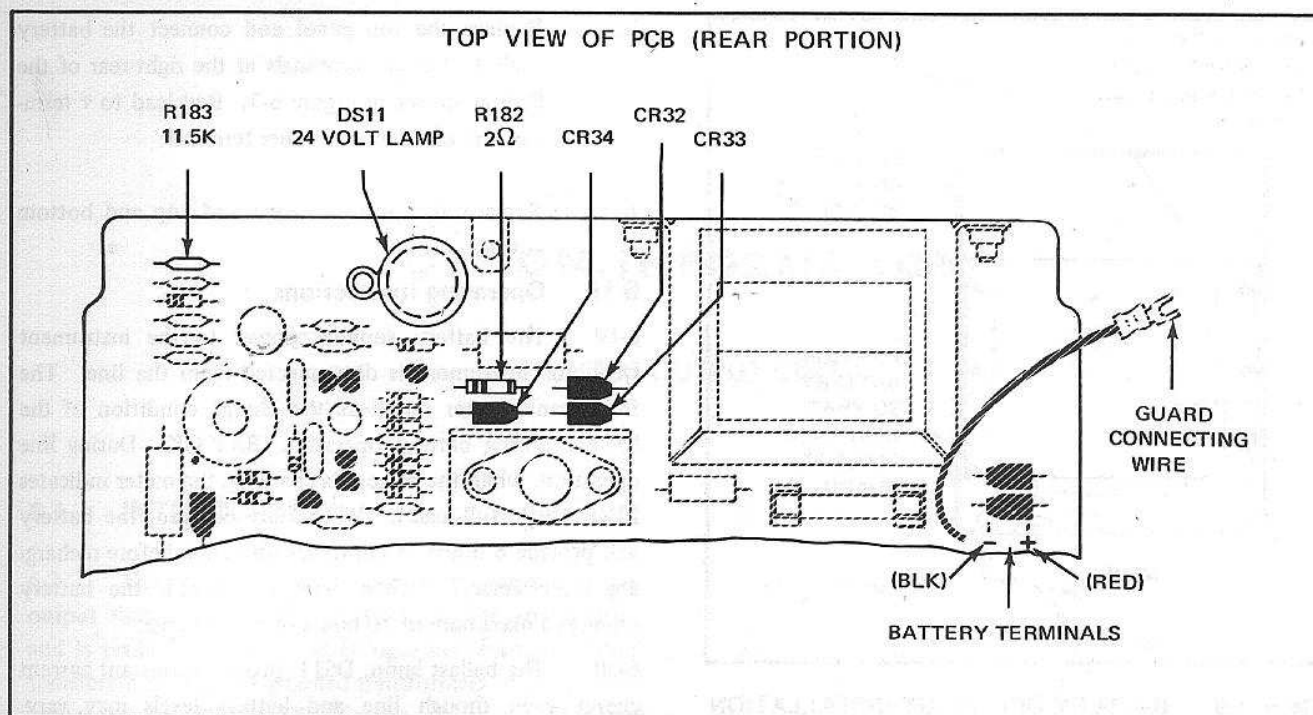

Figure 6-7. COMPONENT LOCATIONS FOR MODEL 8100A-01K BATTERY OPTION KIT INSTALLATION
- c. Install and solder the 2 ohm and 11.5k ohm resistors on the PCB at the locations shown in Figure 6-7.
- d. Install and solder the three diodes on the PCB at the locations shown in Figure 6-7. Be sure that the diodes are oriented according to the anode-cathode markings that are etched on the PCB.
- e. Install and solder the ballast lamp on the PCB at the location shown in Figure 6-7. Three solder connections are required: The anchor lug on the component side of the PCB should be soldered to the side of the lamp base once the lamp is in position, and the two lamp terminals should be soldered from the underneath side of the PCB.
- h. Replace the top guard and connect the battery leads to battery terminals at the right-rear of the PCB as shown in Figure 6-7. Red lead to + terminal and black lead to other terminal.